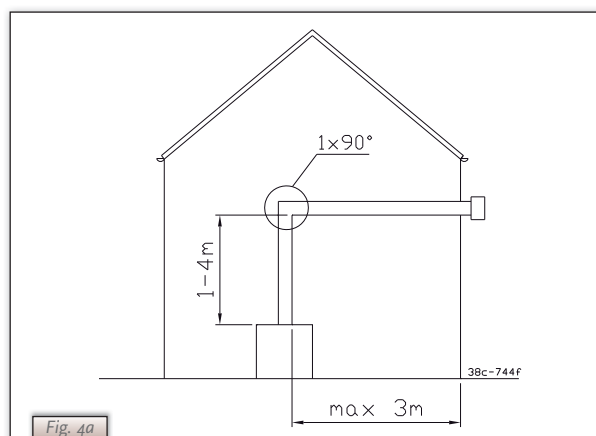

Fig. 4a
- ▬ When using a minimum 1 up to maximum 4 meter vertical pipe length, the total horizontal pipe length may have a maximum of 3 meters (wall duct not included; see Fig. 4a).
b) a minimum 1 meter and maximum 4 meter vertical pipe length in combination with a 90° bend and a maximum 3 meter horizontal pipe length and a wall duct (see Fig. 4a).